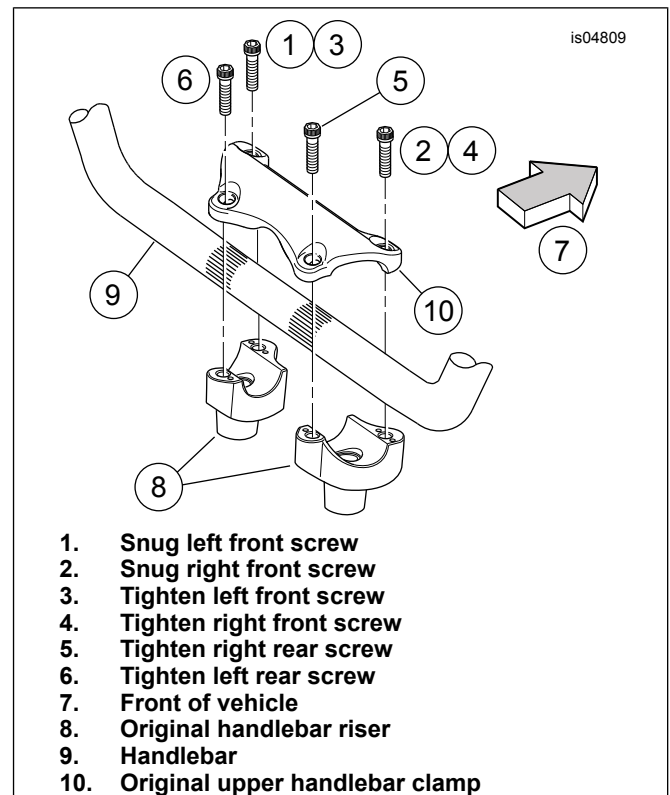

Figure 3. Handlebar Clamp Screw Tightening Sequence
4. See Figure 3. Snug, but do not fully tighten, only the front two upper clamp screws (1) and (2):
13. See Figure 3. Tighten upper handlebar clamp screws:
- a. Tighten left side front screw (3):